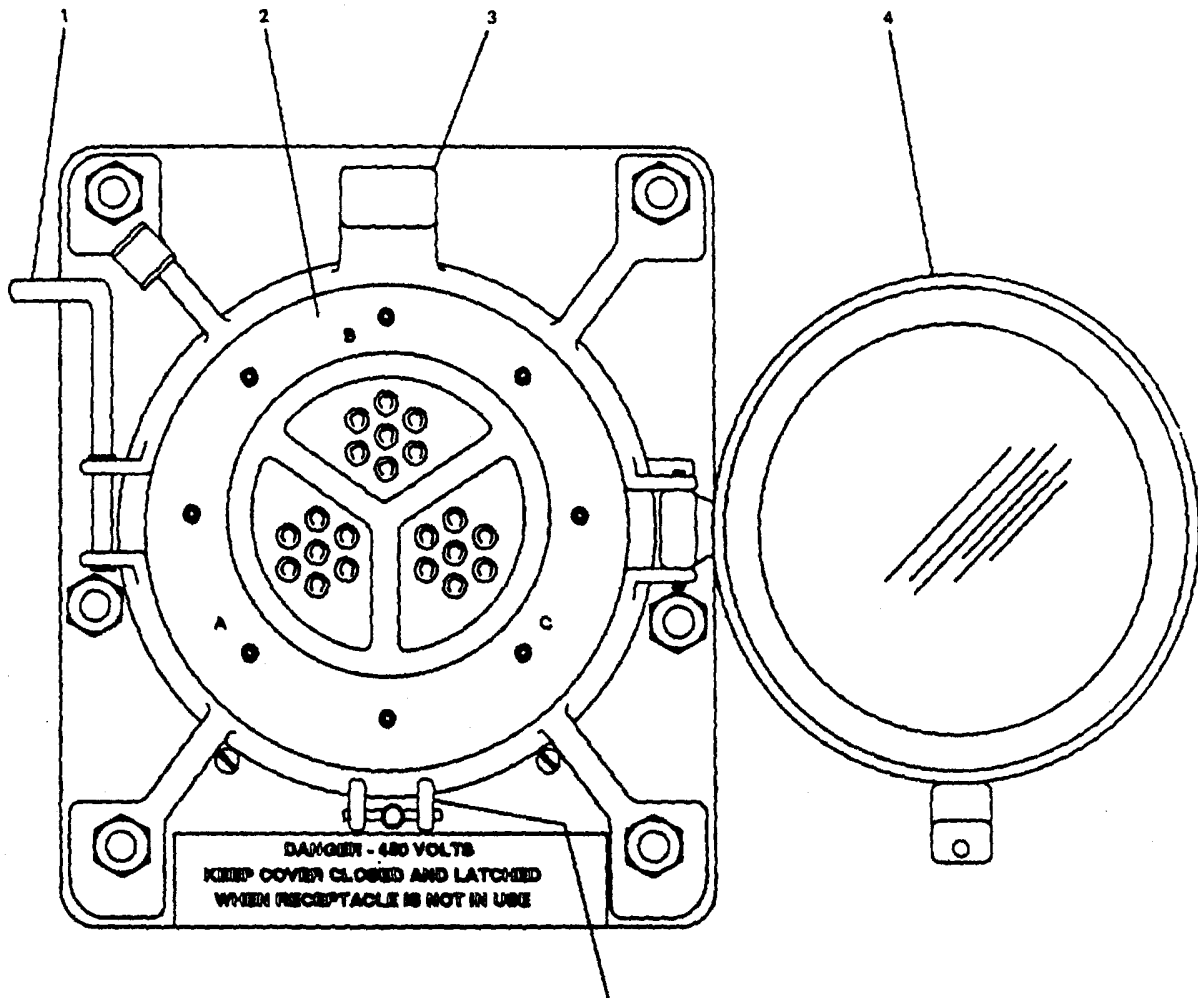

Figure 2-341. Shore Power Connector.
- (6) Coordinate cable payout between onboard and dockside crew.
- (7) Connecting cables:
- (b) At ship shore power connector (Figure 2-341), turn handle (1) to port and open cover (4).
- (c) Align cable connector and insert slot over tongue (3).
(d) Disconnect cable from shipboard shore power connector (Figure 2-341).